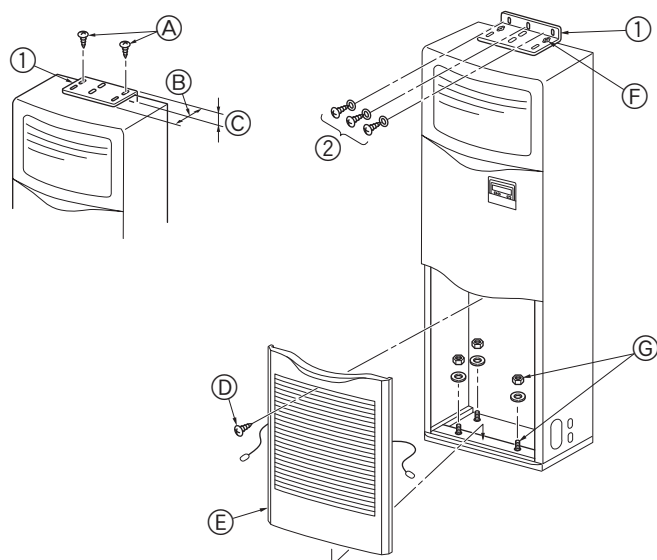

Fig. 3-2
①	Tip-over prevention bracket	1	The top surface of the unit.
②	Tapping screws (with washer)	3	Inside the air intake grill.
③	Gas pipe insulation (large)	1
④	Liquid pipe insulation (small)	1
⑤	Band	5
⑥	Drain socket	1
⑦	Bushing (for the wire hole)	2
3.2. Tip-over prevention bracket (Fig. 3-2)